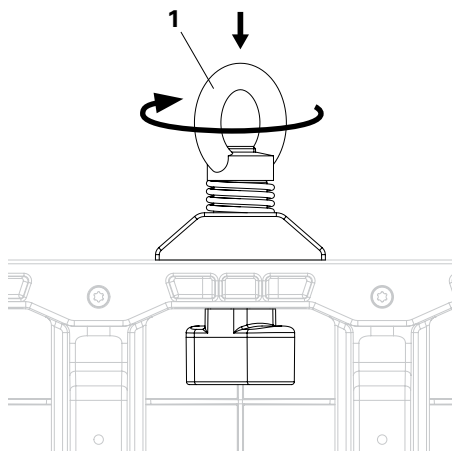

Fig. 7
3. Press down Crane Eye DUO and turn 90°. (Fig. 7)